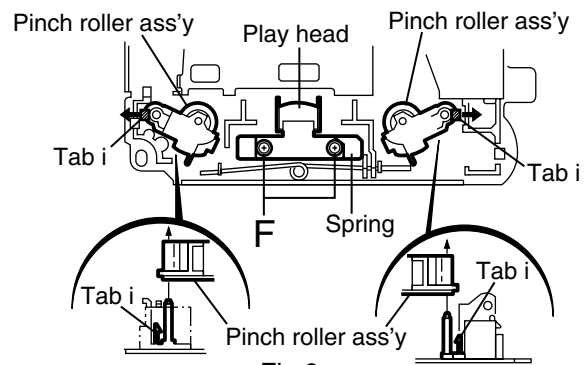

Fig.9
**■ Removing the play head (See Fig.9)**
**■ Removing the pinch roller ass'y (See Fig.9)**